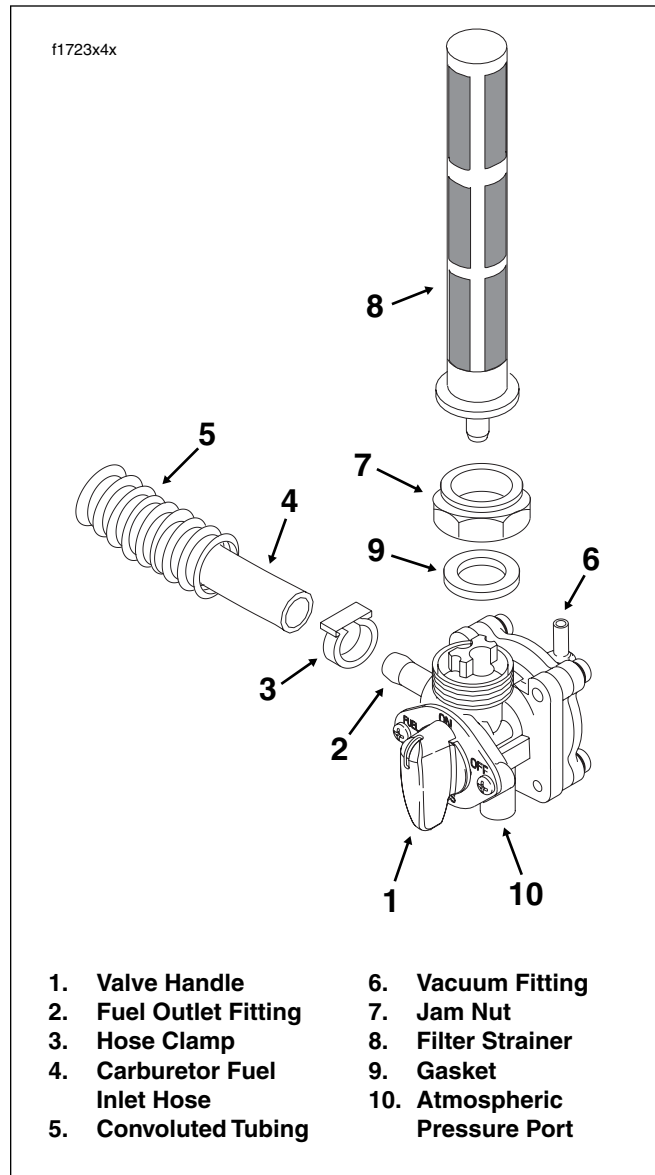

Figure 4-14. Vacuum Operated Fuel Valve
2. Using a side cutters, cut clamp and remove hose from fuel outlet fitting at the front of the fuel valve. See Figure 4-14. Drain free end of hose into a suitable container.